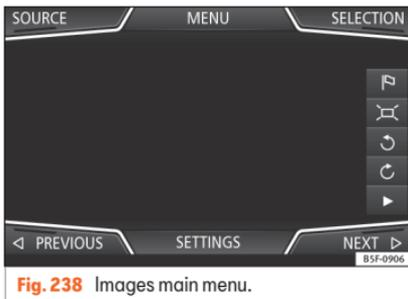

Fig. 238 Images main menu.
- Press the **SOURCE**  **Fig. 238** function button and select the data storage device where the images are stored.